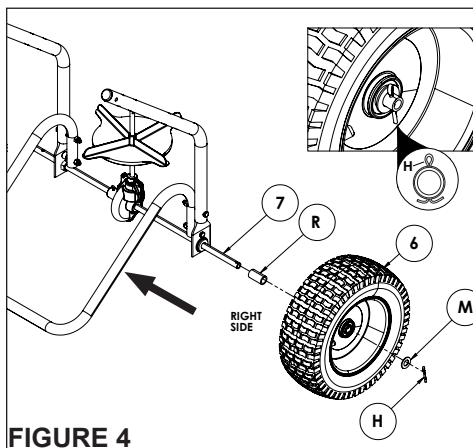

FIGURE 4
STEP 4: (SEE FIGURE 4)
- Slide the spacer (R) on the hollow axle (7) and slide wheel assembly (6).
- Secure the wheel assembly with washer (M) and cotter pin (H) as shown in Figure 4.
- Spread the ends on the cotter pin (H).